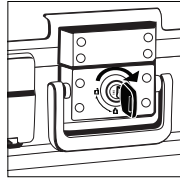

Figure 3
3. Turn the key clockwise to the right $\frac{1}{4}$ turn (Figure 3).